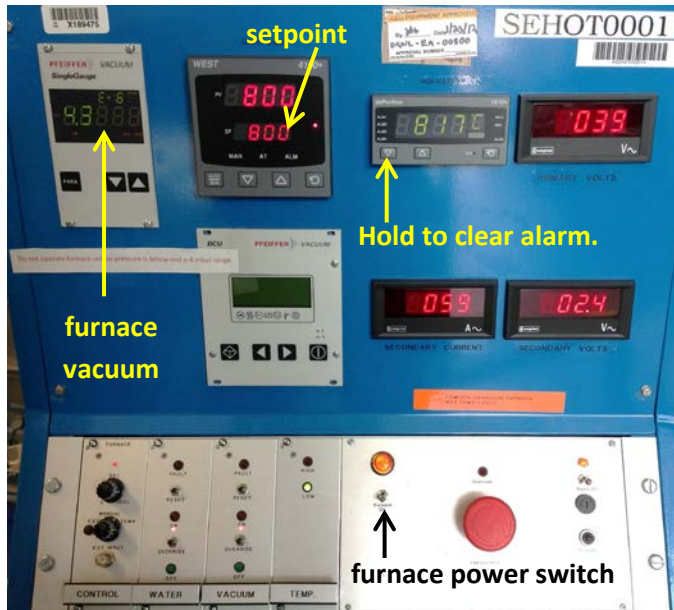

Figure 1. ILL furnace controller.
- b. Turn off power to the heating elements by moving the furnace power switch to OFF with a pull-then-flip, as in Figure 1.